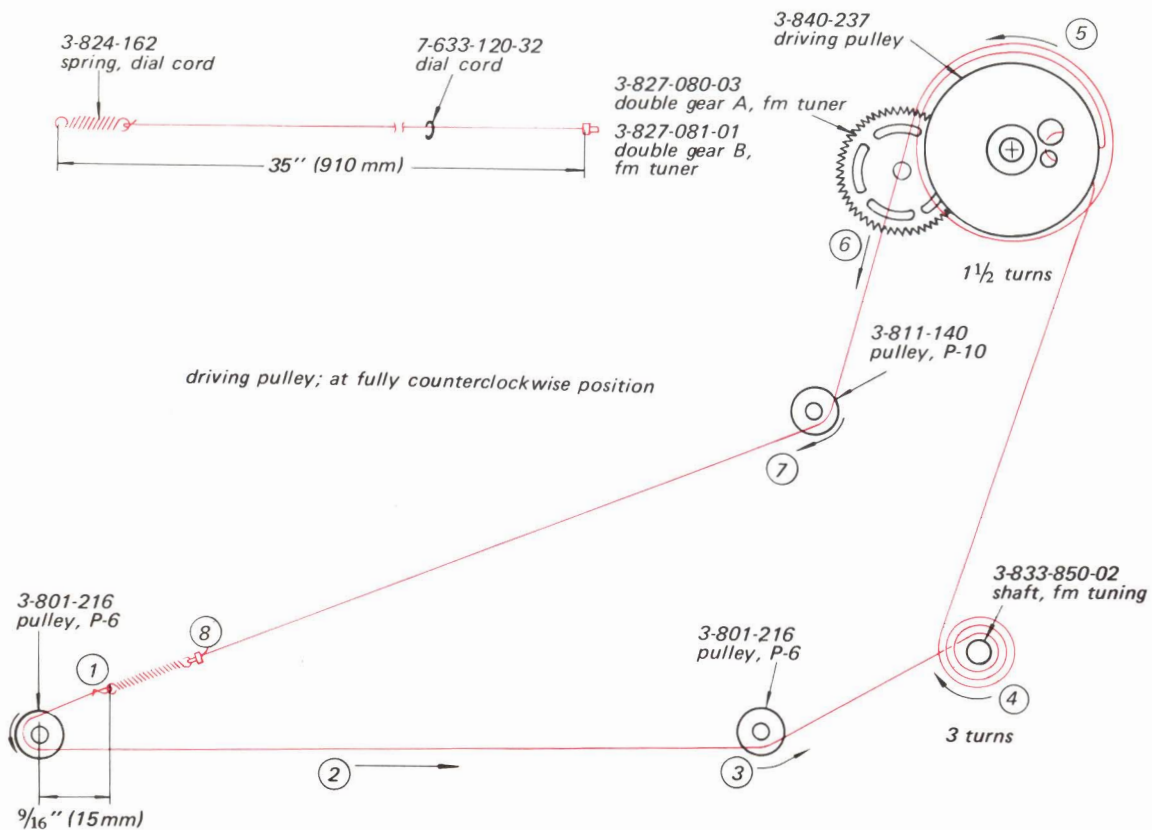

Fig. 2-23
5. Rotate the driving pulley for fm band fully counterclockwise to its minimum capacitance position as shown in Fig. 2-23.